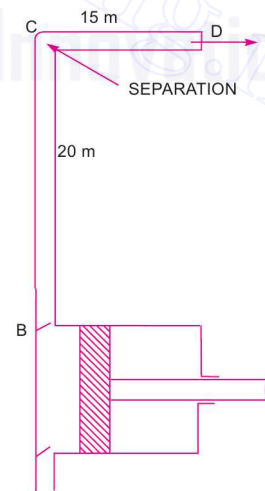

Fig. 20.6(a)
**1st Case.** The pipe rises first vertically and then horizontally as shown in Fig. 20.6 (a). In this case, the possibility of separation is at the point C at the end of the delivery stroke.